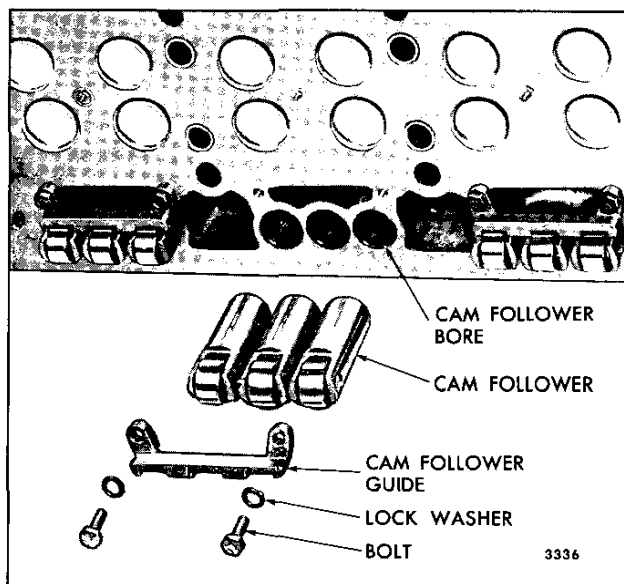

Fig. 3 – Cam Followers and Guide
1. Rest the cylinder head on its side and remove the cam follower guide (Fig. 3).